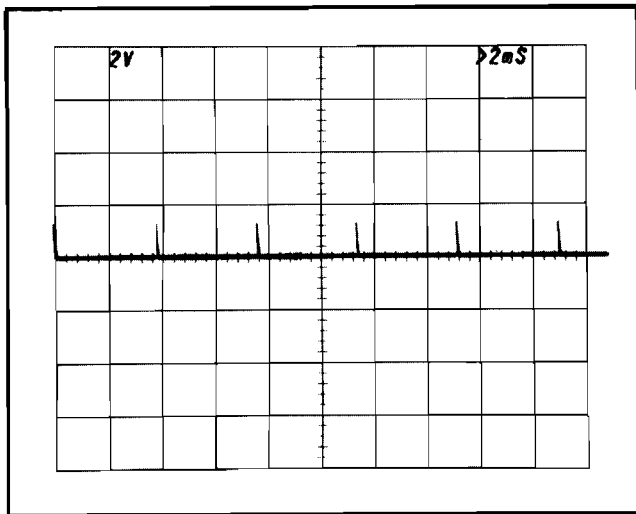

Fig. 5-7. Typical CRT display when checking VARIABLE control range.
c. CHECK—CRT display for a two-division maximum spacing between markers (indicates adequate range for continuously variable sweep rate between the calibrated steps; see Fig. 5-7). Return the VARIABLE TIME/DIV to the CAL IN position.